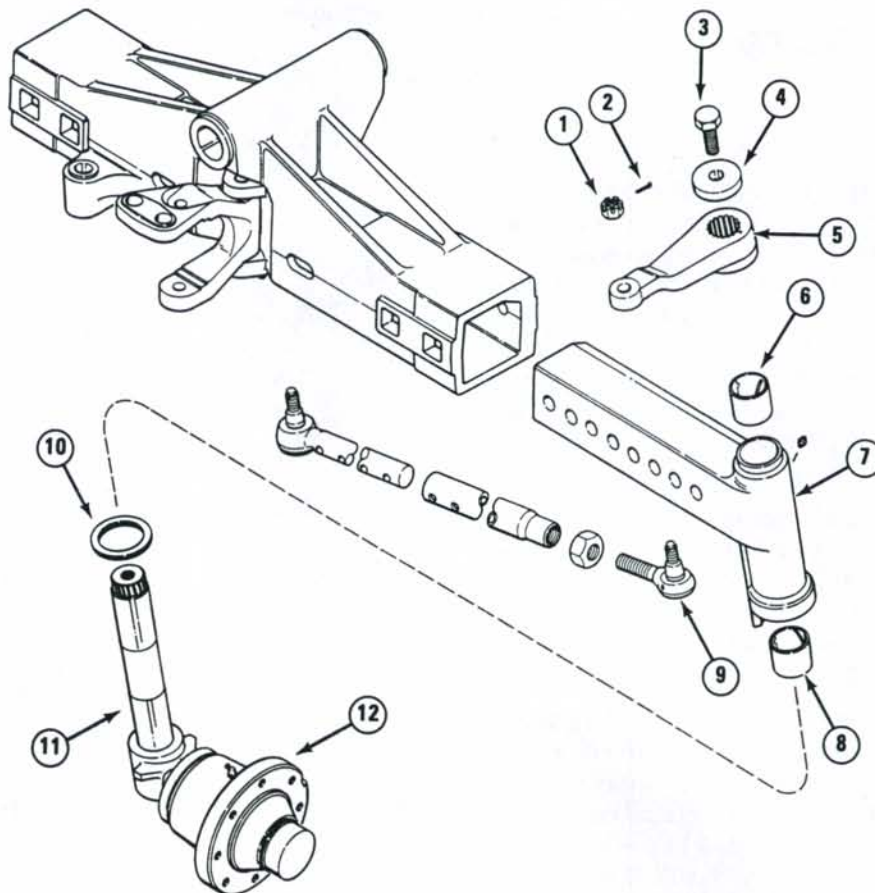

Fig. 2—Exploded view showing axle extension, spindle and bushings used on all two-wheel drive tractors.
2. **R&R SPINDLES.** To remove either spindle, lift and support front of tractor and remove wheel. Disconnect tie rod ball joint (9—Fig. 2) from steering arm (5). Remove cap screw (3) and washer (4). If not marked, install alignment punch marks on steering arm and spindle. Remove steering arm (5) and lower spindle assembly (11) from axle extension (7). Remove thrust bearing (10) from spindle. Inspect spindle bushings (6 and 8) in axle extension and renew as necessary.
3. Removal and disassembly of the tie rods is obvious after examination of the unit and reference to Fig. 2. Tighten tie rod end slotted nuts to a torque of 100 ft.-lbs. (136 N·m) and install new cotter pins. Tighten clamp bolts to a torque of 40-50 ft.-lbs. (55-70 N·m).